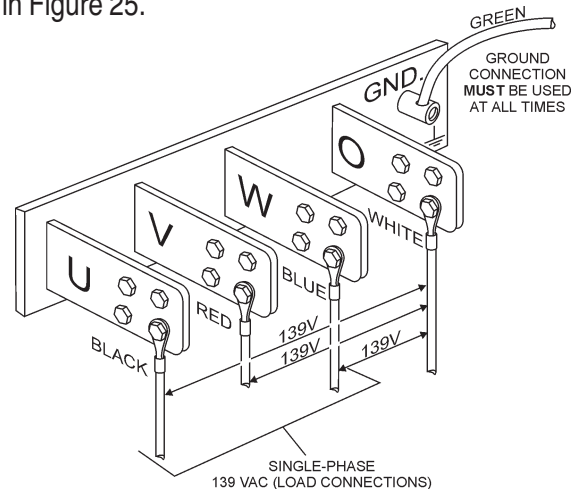

Figure 25. UVWO Terminal Lugs 1Ø-139V Connections
2. Connect the load wires to the UVWO terminals as shown in Figure 25.